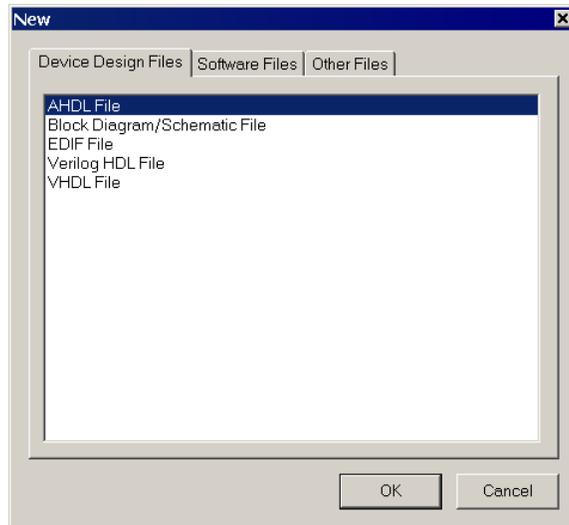
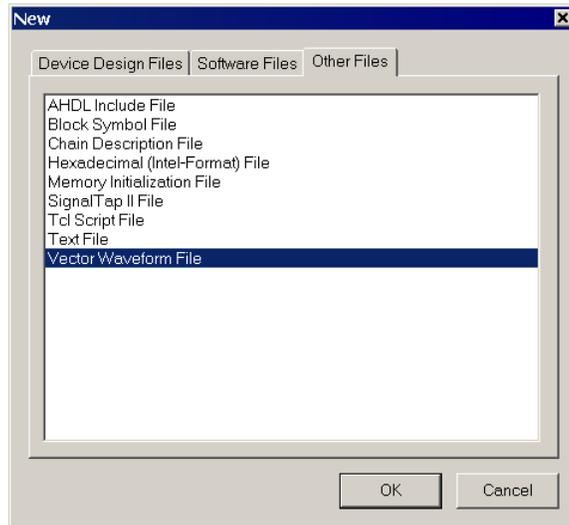

Figure 30. Need to prepare a new file.
Figure 31. Choose to prepare a test-vector file.
1. Open the Waveform Editor window by selecting **File > New**, which gives the window shown in Figure 30. Click on the **Other Files** tab to reach the window displayed in Figure 31. Choose **Vector Waveform File** and click **OK**.